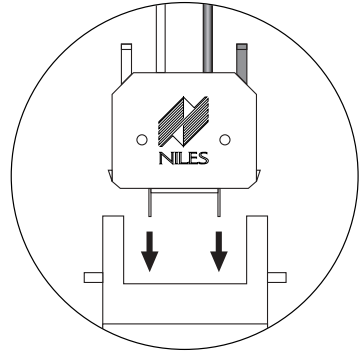

Figure 15
4. Insert the no strip terminal into the corresponding socket on the rear of the speaker. Push it down until it locks in place. The terminal will only fit in the socket in one direction. If the terminal does not properly seat, reverse the terminal 180° and re insert (See Figure 15).